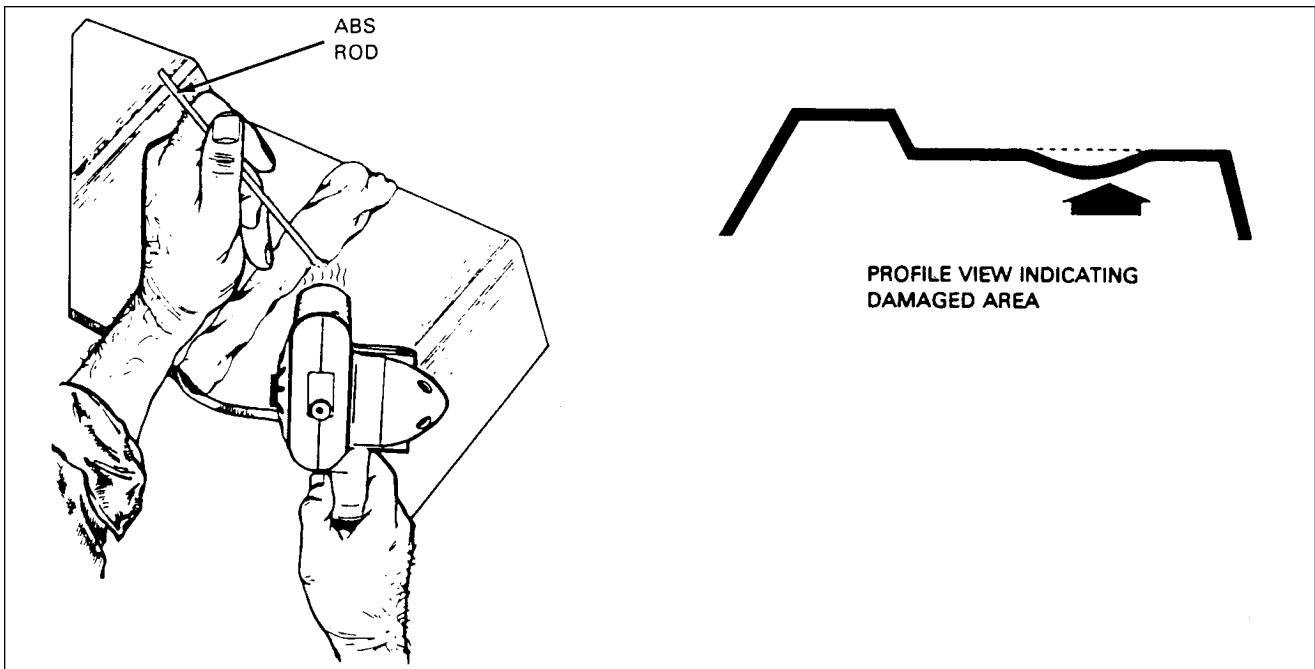

Figure 51-9. Repair of Impacted Damage
- a. Stress lines produce a whitened appearance in a localized area. They are generally caused by severe bending or impacting of material. (figure 51-9)